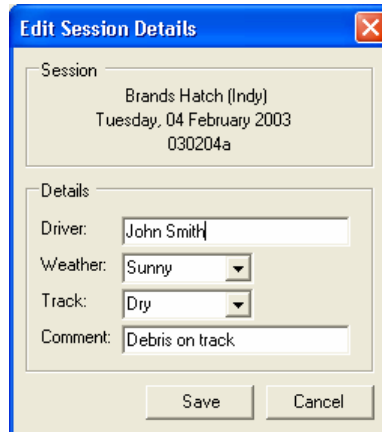

Figure 15 - Edit Session Details Dialog
2. Select **Edit** ➔ **Session Details** from the main menu, or select the **Edit Details** option from the context menu attached to the session node. The Edit Session Details dialog (Figure 15) appears.